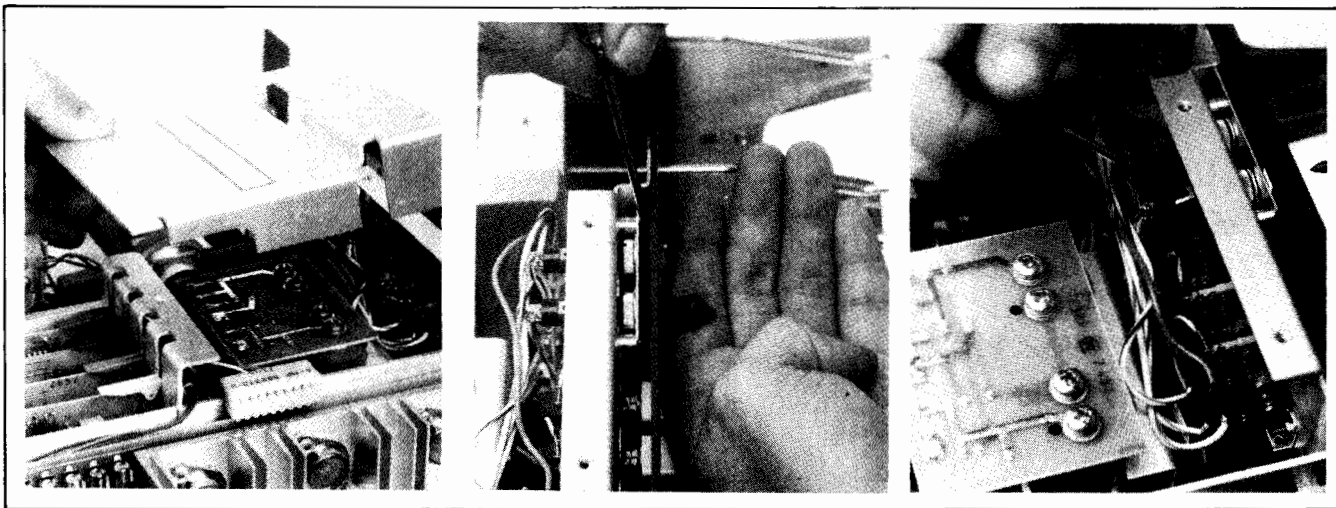

Figure 5-8. Lamp Plate/Front Panel Lamp Removal/Replacement
b. Remove AC Protective Cover (three screws). See Figure 5-8.
c. Insert screwdriver between front panel and lamp holder and pry out lamp plate. See Figure 5-8.
d. Insert screwdriver in provided slot on lamp holder to pry out lamp. See Figure 5-8.